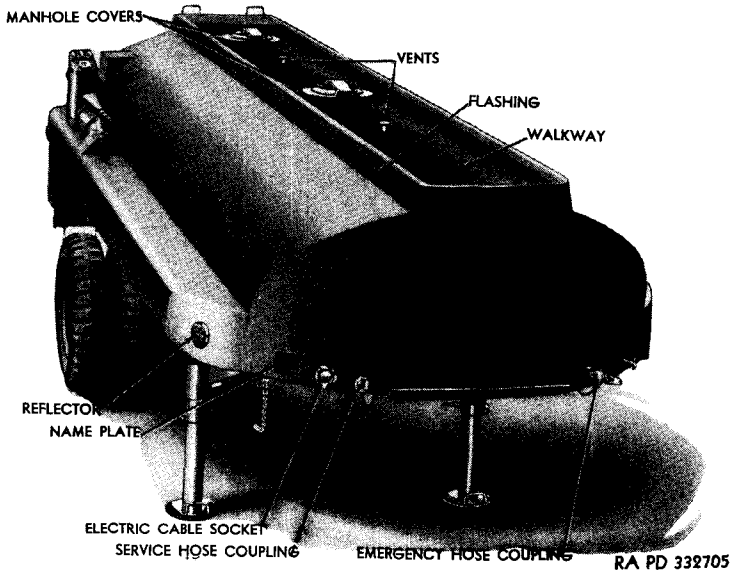

Figure 9—Semitrailer Showing Manhole Covers—Top View
h. Manhole Covers (fig. 9). A manhole cover for each of the two tank compartments is attached to the top walkway of the tank. These covers are hinged and vented and also equipped with padlocks. Wing-type handles operate the catch which holds the cover closed.
(2) **MANHOLE COVERS** (fig. 9). Unlock padlock locking manhole cover handle down, lift handles and throw over until they are pointing in opposite direction. Lift up fill cover. To close, drop fill cover easily. **CAUTION:** *Do not let fill cover drop hard on manhole as cover may break.* Throw handles over to clamp cover down tightly, and padlock in place.